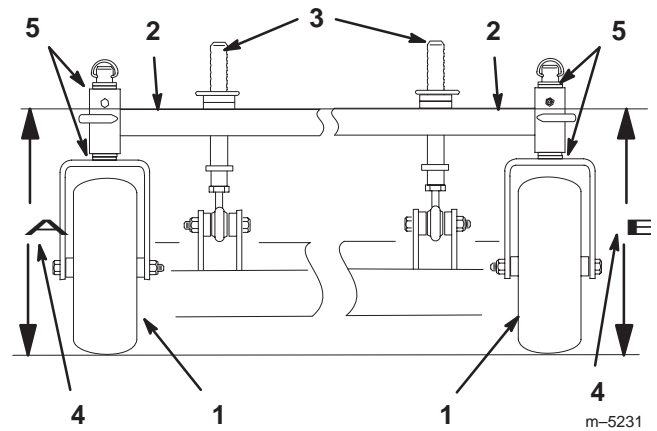

Figure 55
3. Measure carrier frame height at location "A" (Fig. 55).
4. Measure carrier frame height at location "B" (Fig. 55).